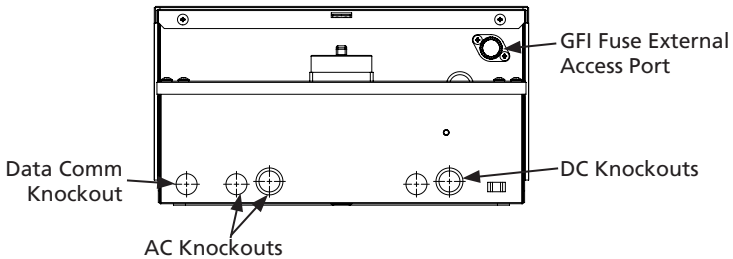

Figure 4-2 Knockouts on AC/DC Disconnect - Bottom View
3. Insert a fitting into one of the AC knockouts on the bottom of the disconnect and fasten securely with a locking nut. Refer to Figure 4-2 for knockout locations.